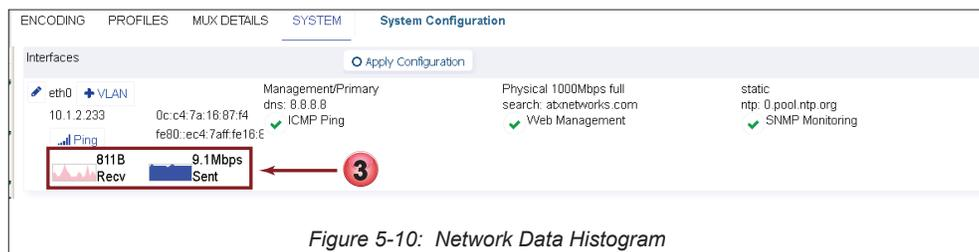

Figure 5-10: Network Data Histogram
3. Histogram of network data sent and received over each individual interface is updated every 10 seconds and shows continuous history for as long as the window is open, Figure 5-10. The current data rate is also shown in Mbps or kbps. The data rate histogram is for comparative purposes only and is not calibrated.